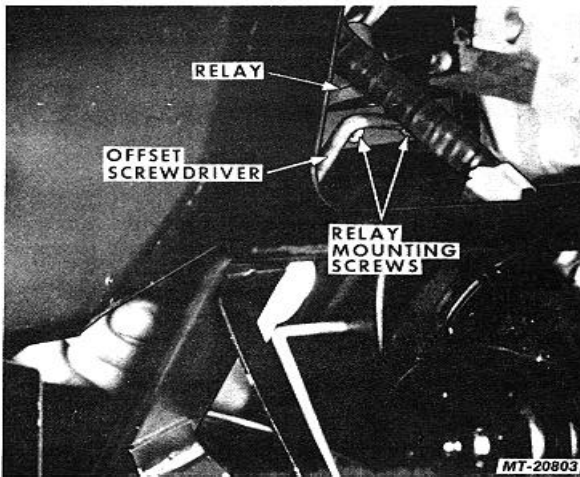

Fig. 52 Removing Relay
4. Using offset screwdriver or screwdriver socket, remove relay mounting screws and remove relay(s) from air duct (Fig. 52).